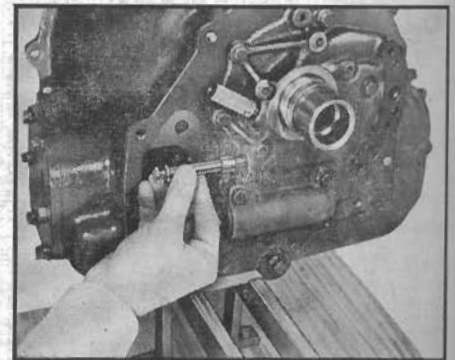

Fig. 10 Removing manual valve
14. Remove manual valve from valve body, Fig. 10, and manual valve lever from turbine housing. Remove bronze thrust washer from valve body delivery sleeve. Then remove body and gasket.